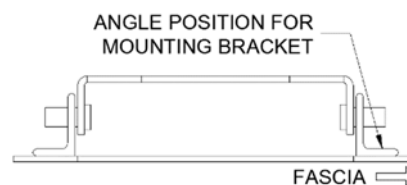

Figure 6.2 – Angle Bracket Kit, Type 5 DMI and 6 DMI
Position the angle bracket kit onto the outside face on the operator bracket as shown in **Figure 6.2**. Fasten using the (4) 1/4-20 x 3/4 button head screws, and nuts.